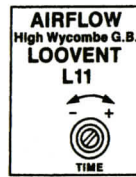

Fig. 16
**10.4.3** Turn the adjusting knob clockwise to increase and anti-clockwise to decrease the operating period (see Fig. 16). The timer is factory set to operate for about 25 minutes and may be adjusted from a minimum of about 5 minutes to a maximum of about 45 minutes.
**10.5.3** Turn the adjuster knob clockwise to increase, and anti-clockwise to decrease sensitivity (see Fig. 16)
**10.6.3** Turn the adjuster knob clockwise to increase and anti-clockwise to decrease speed (see Fig. 16). If it is intended to reduce the speed below the factory setting, it is recommended that the backdraught flap be removed (see Figs. 17 and 18).
**10.7.3** Turn the adjuster knob clockwise to increase and anti-clockwise to decrease speed (see Fig. 16).